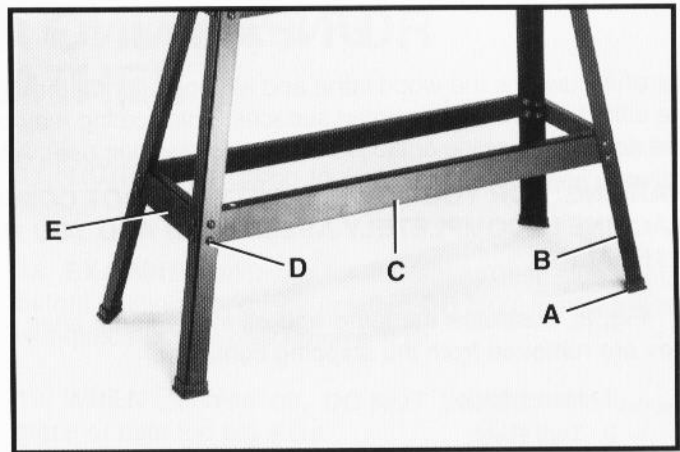

Fig. 4
1. Assemble two 39 inch-long tie bars (C) Fig. 4, with flanges up, to the center of each stand leg (B) using eight carriage bolts (D), flat washers, lockwashers, and hex nuts. **NOTE:** Do not completely tighten hardware at this time.
2. Assemble two 12 inch-long tie bars (E) Fig. 4, with flanges up, to each leg (B), using eight carriage bolts, flat washers, lockwashers and hex nuts. **NOTE:** Do not completely tighten hardware at this time.
3. Assemble rubber foot (A) Fig. 4, to each leg (B).
6. Before tightening hardware (D) Figs. 4 and 5, place stand in upright position; press down on stand until legs adjust to floor surface. Securely tighten all hardware.